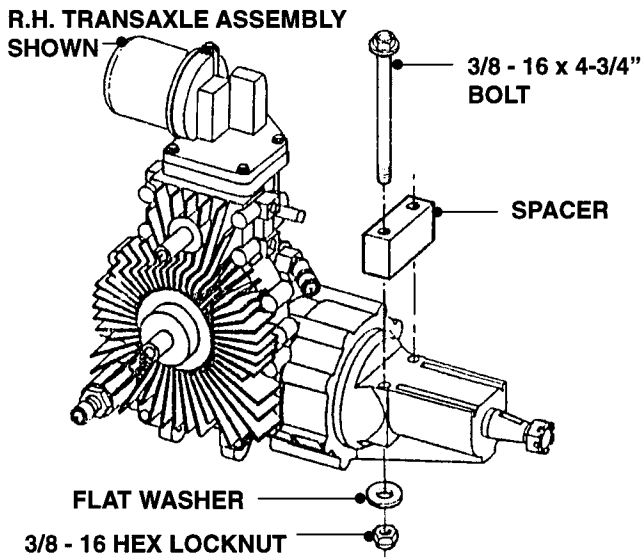

FIGURE 6.10
K. While supporting the Transaxle Assembly in a safe manner, separate it from the Unit by removing the 3/16 - 16 Hex Locknuts, Flat Washers and 3/8 - 16 x 4-3/4" Bolts and Transaxle Spacers. See Figure 6.10. Transaxle Assembly is now ready for repair or replacement.